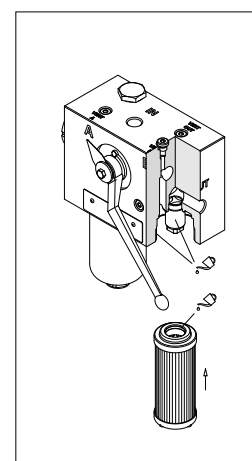

fig. 30
- (Fig. 30) Lubricate with the operating fluid the filter element O-ring, the housing tap and cavity, then fit the filter element on the tap. Pay attention not to damage the O-ring seal